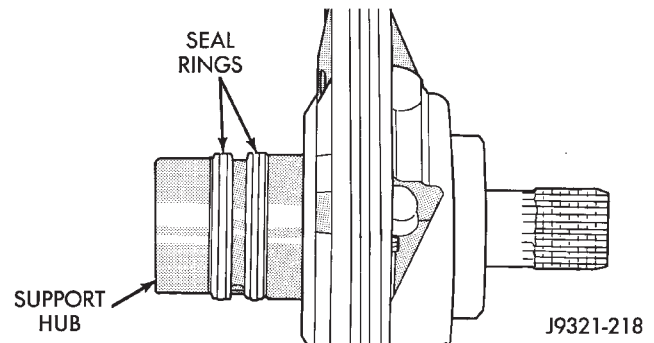

Fig. 59 Hub Seal Ring Position
(6) Install new thrust washer on hub of reaction shaft support. Lubricate washer with transmission fluid or petroleum jelly.
(7) If reaction shaft seal rings are being replaced, install new seal rings on support hub (Fig. 59). Lubricate seal rings with transmission fluid or petroleum jelly after installation. Squeeze each ring until ring ends are securely hooked together.